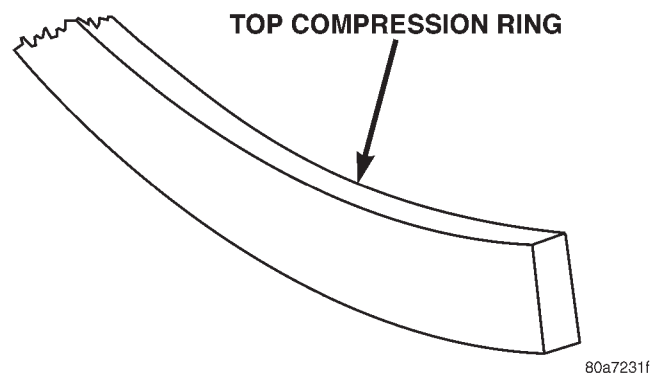

Fig. 10 Top Compression ring identification
(5) The oil control rings are symmetrical, and can be installed with either side up. It is not necessary to use a tool to install the upper and lower rails. Insert oil rail spacer first, then side rails.
(6) The two compression rings are different and cannot be interchanged. The top compression ring can be identified by the shiny coating on the outer sealing surface and can be installed with either side up. (Fig. 10).